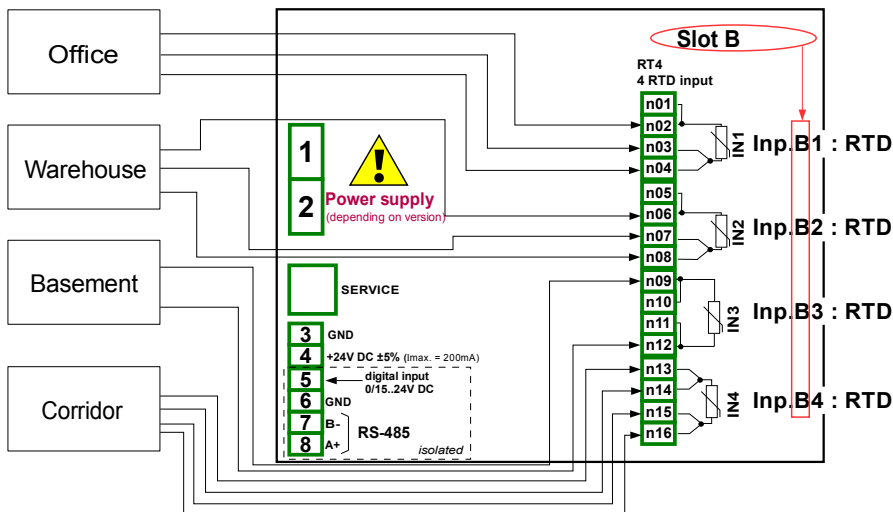

Fig. 7.70. Schematic diagram for the RT4 module
Before measuring the temperature the user should configure the device and then connect the sensors as shown in **Fig. 7.70**.
- **Source** parameter set as **Inp. B1: RTD** (see the connection in Fig. 7.70),